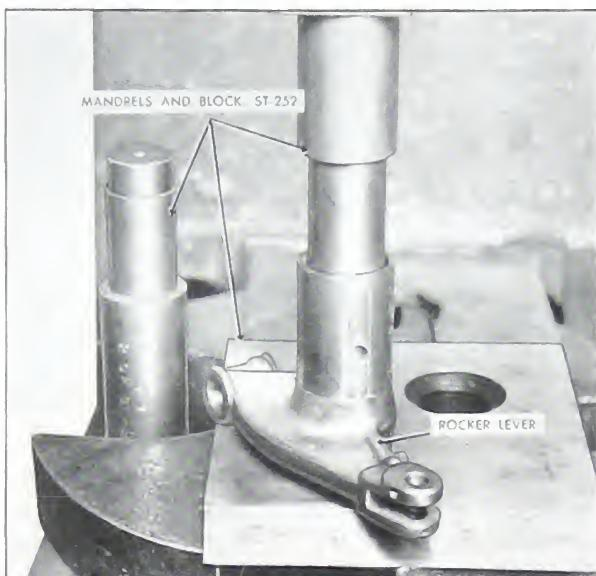

Fig. 4-6. Pressing bushing in rocker lever
3. Use mandrel and block, ST-252, in an arbor press to install new bushings in the levers as shown in Fig. 4-6. The sleeve will support the bushing and prevent distortion of the bushing during this operation. Use the hole in the sleeve to align the hole in the bushing with the lubricating oil boss of the lever. This will index lubricating oil drillings in bushing and lever.